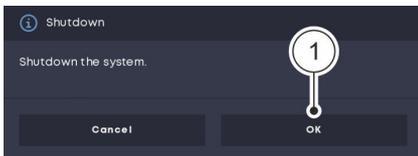

Fig. 59 Switching the robot off
02. In the pop-up window, choose 'OK' to confirm and switch off the robot Fig. 59/1.